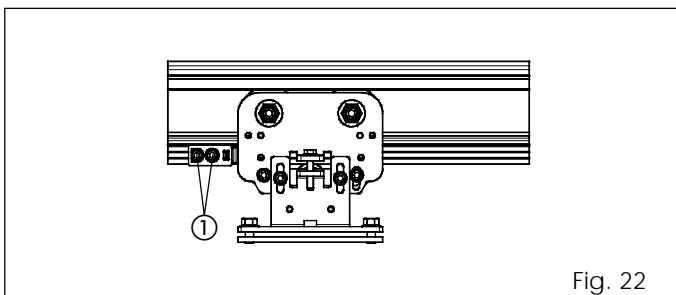

Fig. 22
- Loosen the two hexagon head screws as shown in figures 22 and 23 ref. ①.